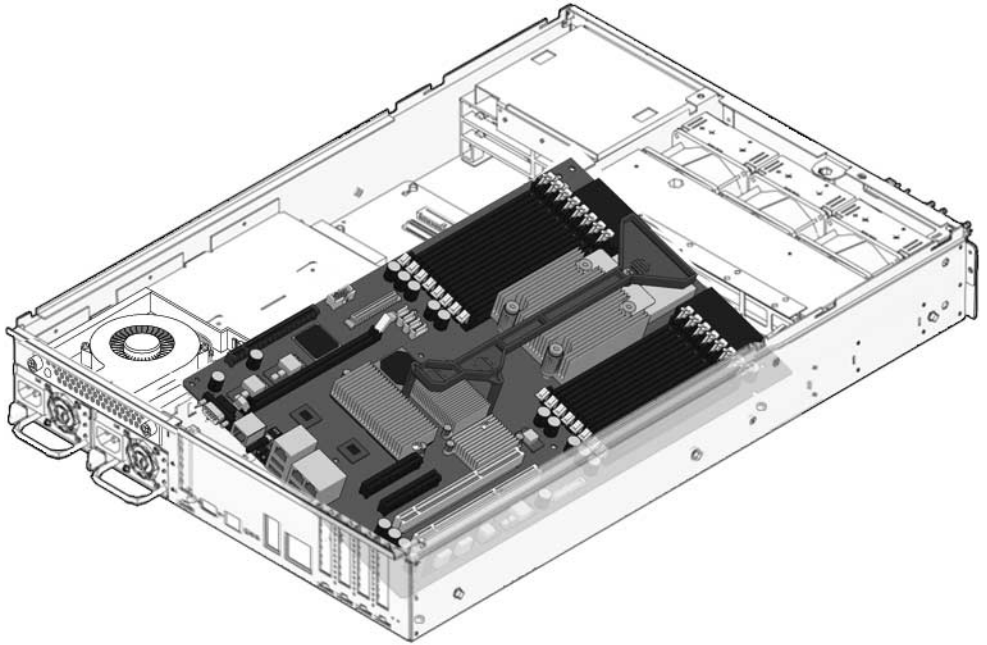

FIGURE 5-14 Removing the Motherboard Assembly From the Server Chassis.
10. Using the handle, tilt the motherboard assembly over the interior chassis wall and lift it out of the chassis (FIGURE 5-14).